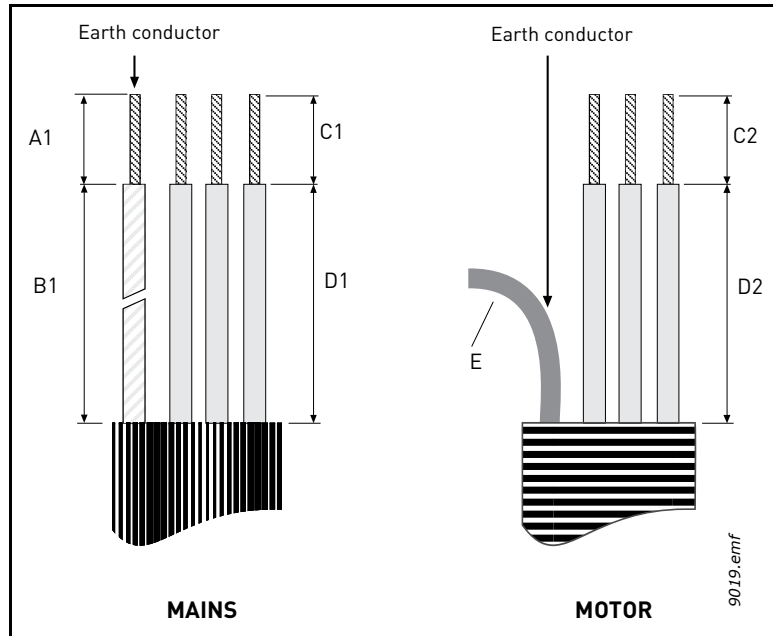
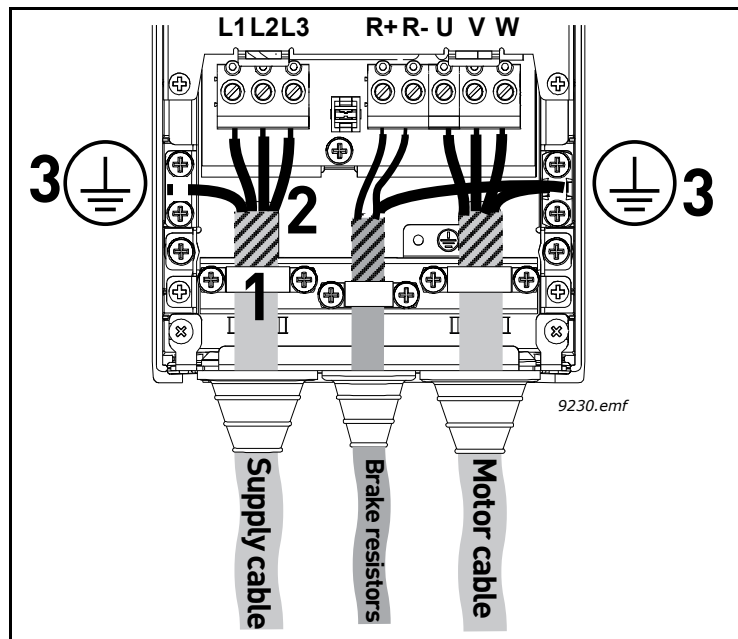

Figure 25. Stripping of cables
Figure 32. Cable connection
7	<p>Connect the stripped cables (see Figure 25 and Table) as shown in Figure 32.</p> <ul style="list-style-type: none"> • Expose the shield of all three cables in order to make a 360-degree connection with the cable clamp (1). • Connect the (phase) conductors of the supply, brake and motor cables into their respective terminals (2). • Form the rest of the cable shield of all three cables into “pigtails” and make a grounding connection with a clamp as shown in Figure 32 (3). Make the pigtails just long enough to reach and be fixed to the terminal - not longer.